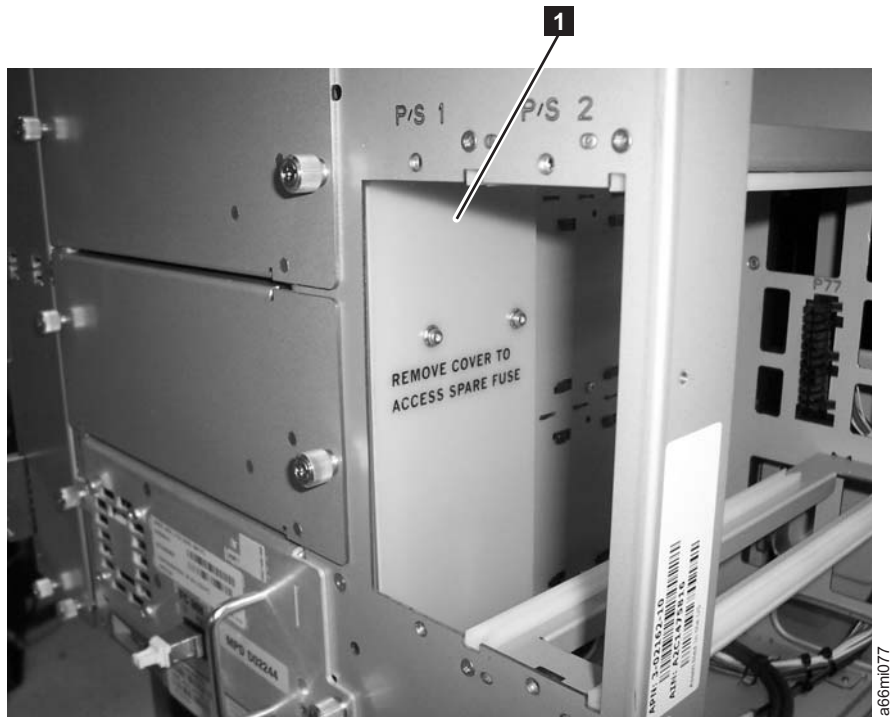

Figure 8-69. Drive power overload fuse cover plate
3. Remove the cover plate (**1** in Figure 8-69) inside the power supply slot.